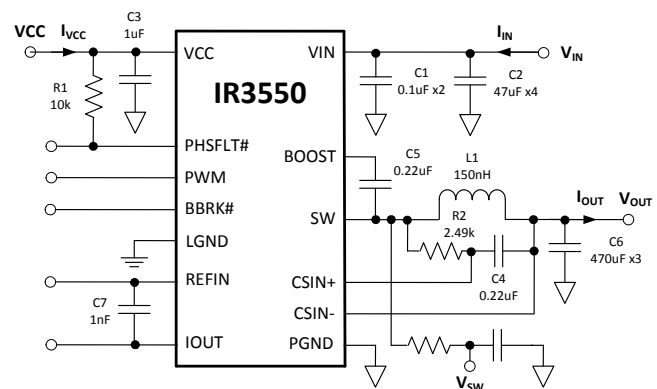

Figure 32: IR3550 Power Loss Measurement
Circuit of Figure 32, $V_{IN}=12V$, $V_{OUT}=1.2V$, $f_{SW} = 400kHz$, $L=150nH$ ($0.29m\Omega$), $V_{CC}=7V$, $T_{AMBIENT} = 25^{\circ}C$, no heat sink, no air flow, 8-layer PCB board of 3.7" (L) x 2.6" (W), no PWM controller loss, no inductor loss, unless specified otherwise.
Circuit of Figure 32, $V_{IN}=12V$, $V_{OUT}=1.2V$, $f_{SW} = 400kHz$, $L=150nH$ (0.29mΩ), $VCC=7V$, $T_{AMBIENT} = 25^{\circ}C$, no heat sink, no air flow, 8-layer PCB board of 3.7" (L) x 2.6" (W), no PWM controller loss, no inductor loss, unless specified otherwise.
Circuit of Figure 32, $V_{IN}=12V$, $V_{OUT}=1.2V$, $f_{SW} = 400kHz$, $L=150nH$ (0.29mΩ), $V_{CC}=7V$, $T_{AMBIENT} = 25^{\circ}C$, no heat sink, no air flow, 8-layer PCB board of 3.7" (L) x 2.6" (W), no PWM controller loss, no inductor loss, unless specified otherwise.
The single-phase IR3550 efficiency and power loss measurement circuit is shown in Figure 32.